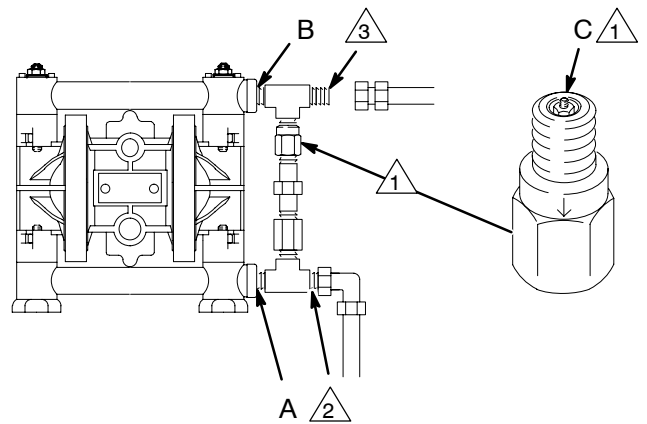

Fig. 2
- The pump fluid inlet is 3/8 npt(f). See Fig. 2. Screw the fluid fitting into the pump inlet snugly. Use a compatible liquid thread sealant or PTFE tape on connections to prevent air from getting into material line.
- Use electrically conductive fluid hoses (N). The pump fluid outlet is 3/8 npt(f). See Fig. 2. Screw the fluid fitting into the pump outlet snugly.
- Install a fluid regulator (M) at the pump fluid outlet to control fluid pressure, if desired. See **Air Line**, step 1a, for another method of controlling pressure.
- Install a fluid drain valve (J) near the fluid outlet. See the **WARNING** above.
Some systems may require installation of a pressure relief valve at the pump outlet to prevent overpressurization and rupture of the pump or hose. See Fig. 2.